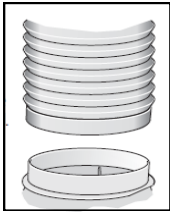

Fig. 5
Connection (Fig. 5 & 5.1)
- Attach $\varnothing 150\text{mm}$ pipe directly to the air outlet and secure appropriately (Fig. 5).